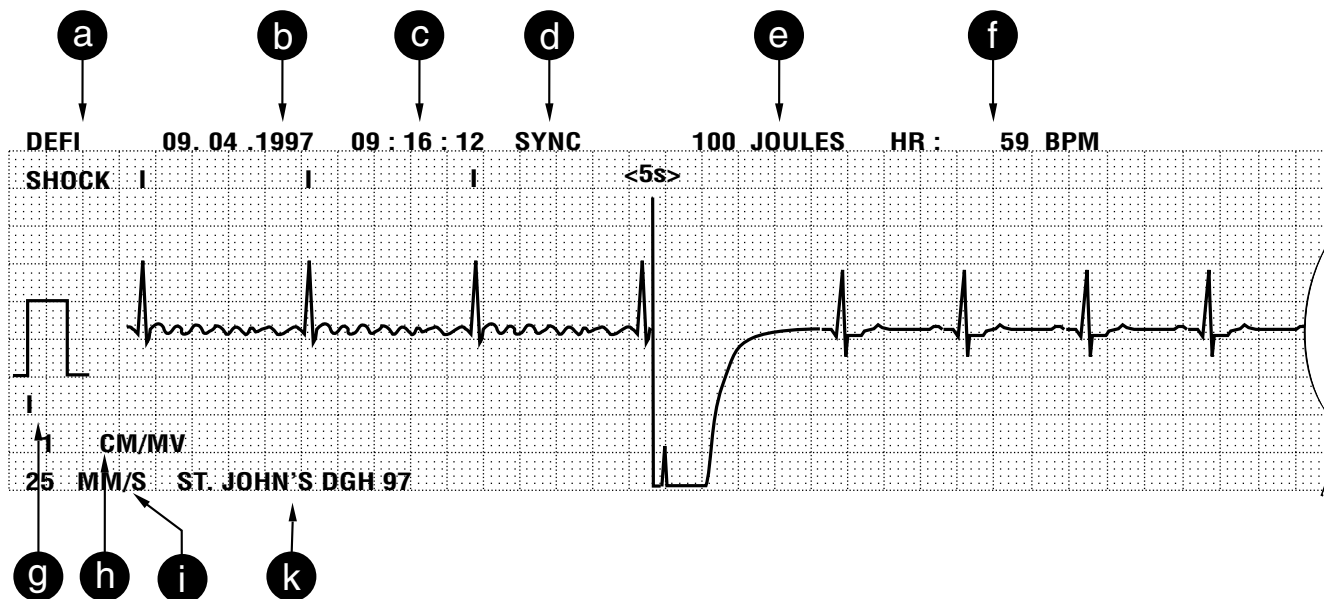

Figure 5-8. Example of a recording initiated by a defibrillation pulse
- After defibrillation, the defibrillator stops beeping, and the energy actually delivered to the patient is displayed for 10 seconds in place of the stored energy. At the same time the recorder writes a 16-second ECG, including a history of 4 seconds (adjustable, Figure 5-8). CardioServ saves the ECG (4-s history, 5 s blanked, 10 s after release of shock). On the recording the blanked period of time is marked with a spike (Figure 5-8). Refer to section 7 “The Memories of CardioServ”.